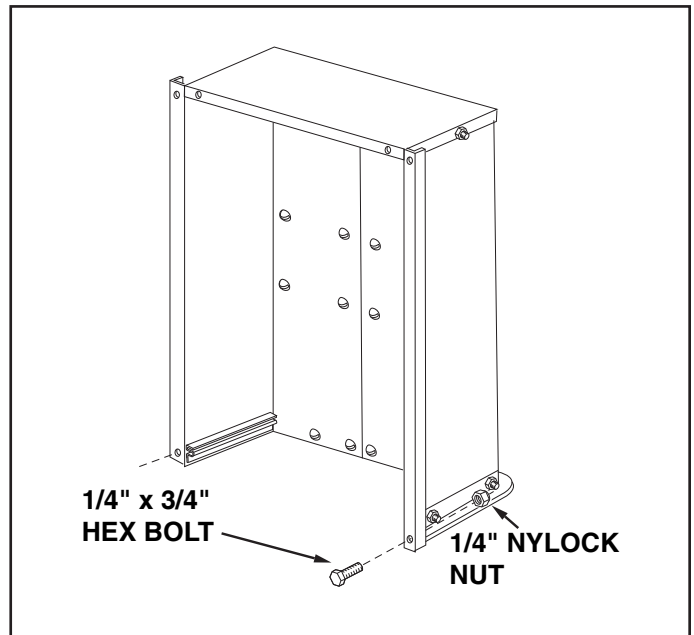

FIGURE 7
12. Assemble two 1/4" x 3/4" hex bolts and 1/4" nylock nuts to the two rear corners of the cart. **Tighten**. See figure 7.